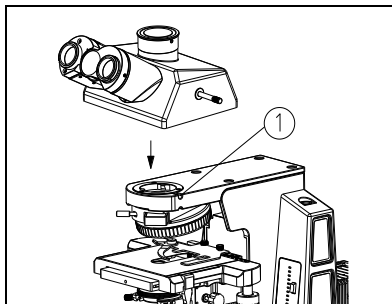

Fig.7
- (1) Loosen the head lock-screw ① fully. (See Fig. 7)
- (2) From a little right position, insert the coattail interface on the bottom of head into the hole of middle head with a little left inclined. Keep the two eyepiece tubes forward, and then screw down the lock screw ①.